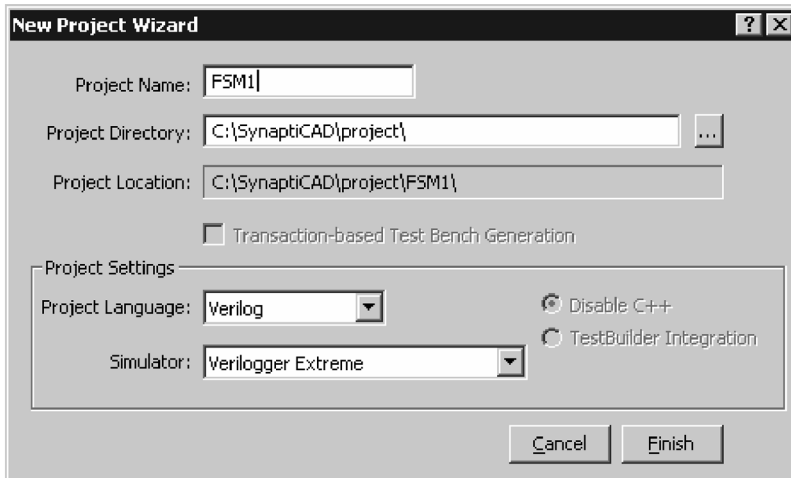

Figure C.5 Project wizard screen.
- Choose the **Project > New Project** menu to open the *New Project Wizard* dialog (Figure C.5).